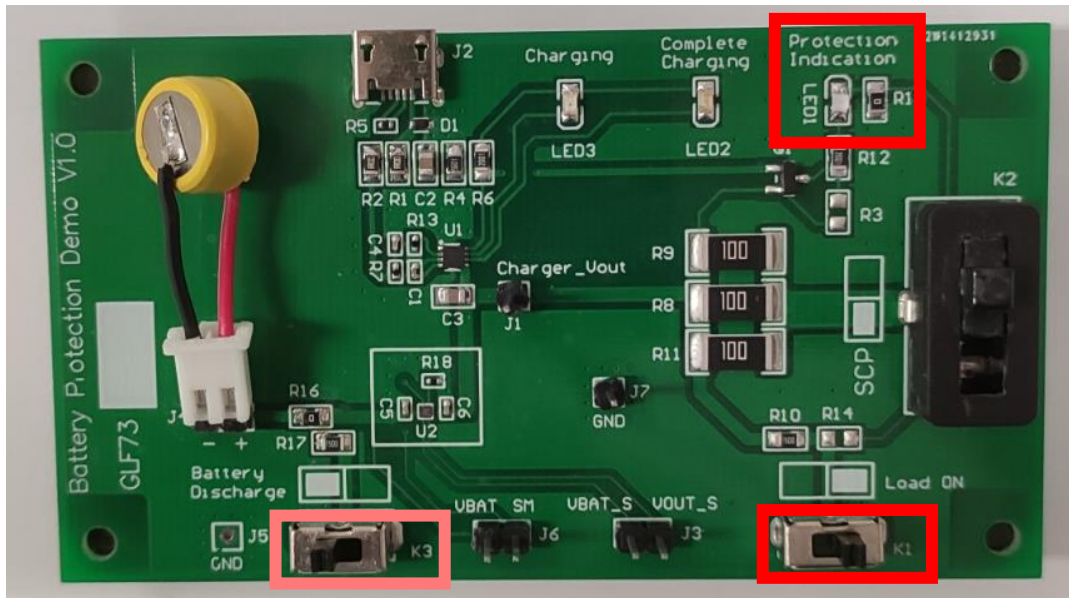

Fig 10. Over-discharge voltage protection
2. As shown in *Fig 10*, we switch K1 to the "Load on" side, at this time, the battery will discharge through a 150 Ω resistor. When the battery voltage is lower than the over-discharge voltage detection voltage (2.8V), the Over-discharge voltage protection of GLF73915 / GLF73910 is triggered, at this time GLF73915 / GLF73910 is turned off, and LED3 (Blue) is off. If the battery is fully charged, it may take more than 30 minutes to trigger the over-discharge voltage protection. At this time, we can switch K3 to "Battery Discharge" to speed up the battery discharge. Note: After the demonstration of over-